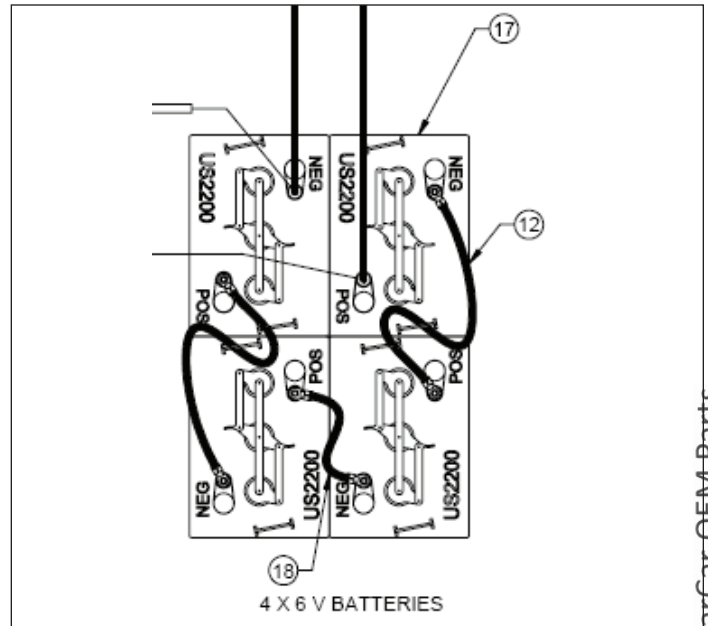

Figure 9-9. Battery Cables
1. Remove nuts, washers and cables (12) and (18), positive lead and negative lead interconnecting batteries (17). See Figure 9-9.